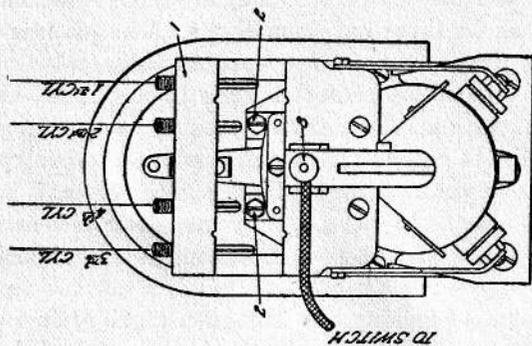
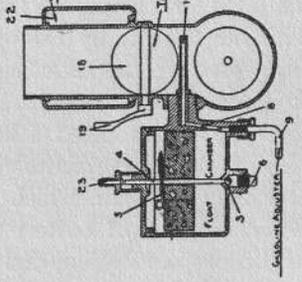

FIGURE 2
FIGURE 3
The motor started, the ignition system may now be changed from the batteries to the magneto by throwing in the magneto switch and throwing out the battery switch. Grasp the steering wheel with the left hand, advance the spark lever (14), Plate 1, Fig. 2, so that the motor will have some momentum before throwing in the clutch. Press forward on the clutch pedal (13), Fig. 1, with the left foot so that the clutch will be disengaged (as it is impossible to make any gear changes until clutch is thrown out). Take hold of the control lever (2), with the right hand and swing it to the inside path (9), Fig. 3, of the quadrant. Now push lever forward with a quick motion until you feel the first speed gears come into mesh, allowing your foot to gradually release on the clutch pedal (13). The clutch will be thrown into engagement. The car will start up and be running in first speed. Having gained sufficient momentum, second speed may be engaged by again disengaging clutch and by putting the control lever in a backward direction to the end of the path. Having gained greater momentum, again throw out clutch, swing lever (2) back to neutral position, then across to outside path (11), Fig. 3, and with a forward motion enter third speed. Allowing clutch to engage, you will now gain greater speed and be running in third speed. Again throwing out the clutch and pulling lever (2) as far back as it will go, allowing clutch to engage, the car
The car is equipped with a magneto (Fig. 3, Plate II and Plate XII) of the Bosch make, and batteries acting through an Atwater-Kent Generator (Fig. 2, Plate II). Each system is of the jump spark type, acting entirely independent of the other, and through its own set of plugs in the cylinders. Each system is provided with a switch (1-2) (Fig. 1), enabling the driver to bring into use either system or both, as he may see fit. Both systems are controlled by the one spark lever (14, Plate I) on top of the steering post.
The magneto (Fig. 3) is placed on the right forward end of the crank case. It is directly driven through a pinion on the armature shaft by the inlet cam shaft gear.
The gear shifting device is of the selective type, four speeds forward and one reverse, using two paths in the quadrant (Plate I, Fig. 3) for their respective speeds. The shifting to all speeds is controlled by hand lever (2) through the small levers, (3-4) and (5-6), each fastened to its respective tube of the control shaft; small levers (5-6) being connected by links (7-8) to their respective shifter rod or tube of the transmission, as shown in the drawing.
Hand lever (2) is in a neutral position when placed in the cut-out or position as shown in Fig. 3.